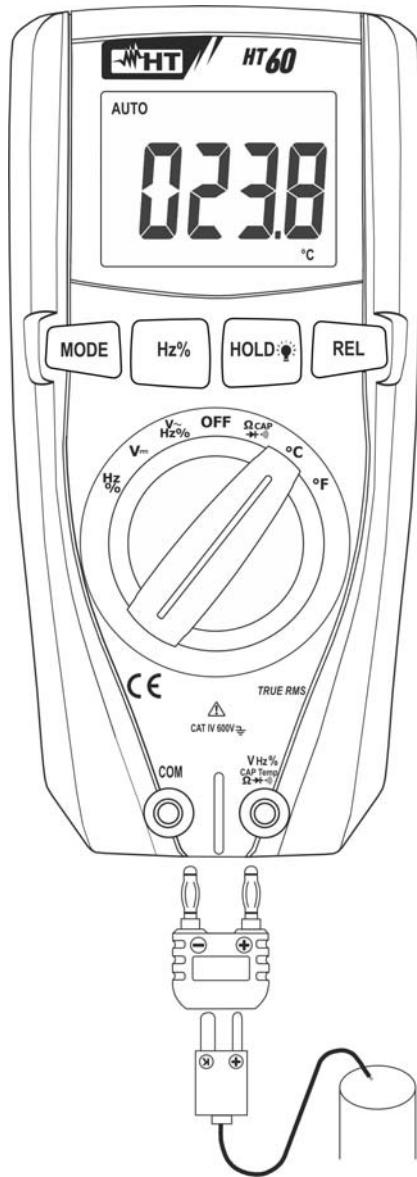

Fig. 8: Use of the instrument for Temperature measurement
2. Insert the provided adapter into input terminals **VHz%CAPTemp**  $\Omega \rightarrow$  (polarity +) and **COM** (polarity -) (see Fig. 8).